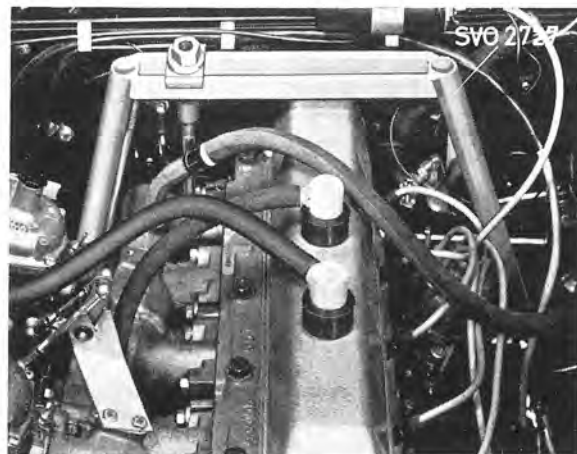

Fig. 4-16. Suspending engine
- 2727 Tool for suspending engine when removing and fitting gearbox, see Fig. 4-16
1. Secure lift tool 2727 to the engine as shown in Fig. 4-16. The lifting hook is secured round the exhaust manifold.